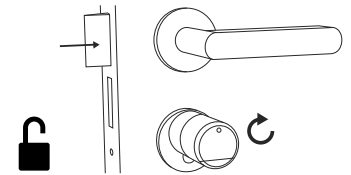
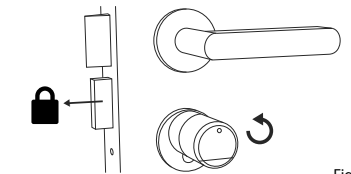

Fig. 5
Fig. 6
- 3 When the number combination entered is correct, the cylinder status symbol (⊙) will illuminate and the door can be unlocked (Fig. 5) or locked (Fig. 6).